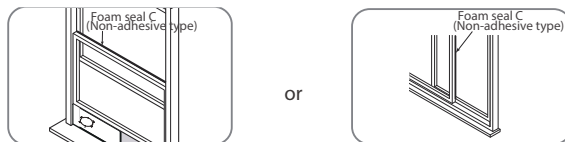

Fig. 10
3. Cut the non-adhesive foam seal C strip to match the width of the window. Insert the seal between the glass and the window frame to prevent air and insects from getting into the room. (Fig. 10)